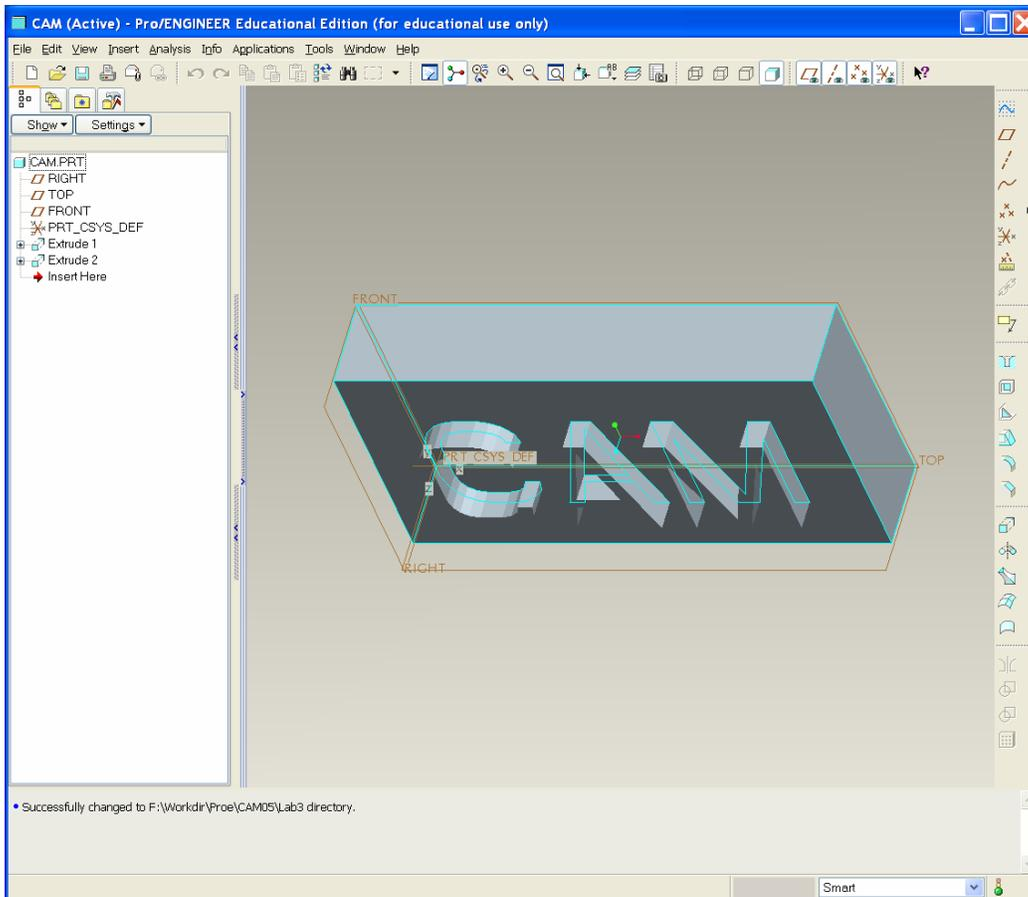

Figure 1.12 Part model
- View the created part (Figure 1.12). View → Orientation → Standard Orientation.